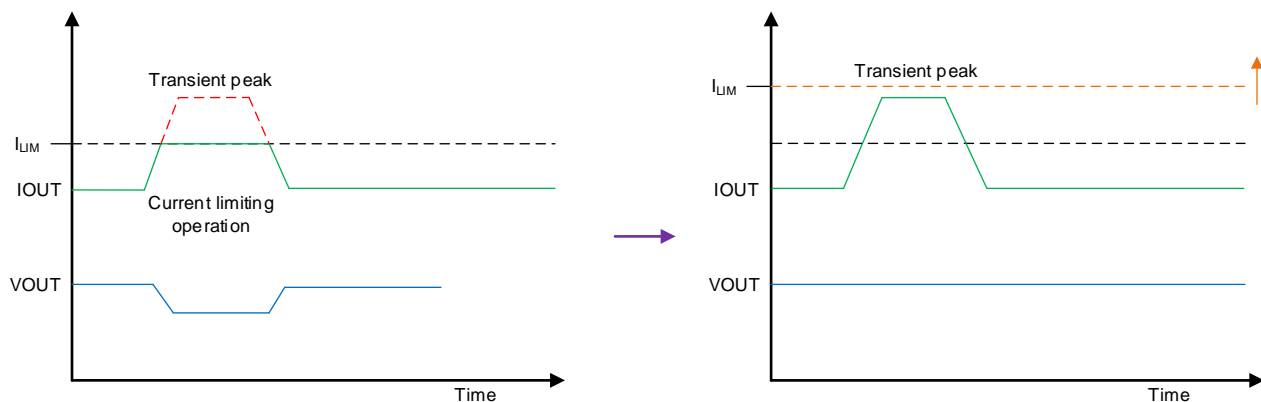

Figure 4. Higher DC Current Limit to Avoid False Trip During Transients
2. Employ a higher DC current limit threshold. The threshold is increased to a level above the highest peak current expected in the system as shown in Figure 4. This ensures that the load transients pass through without triggering the overcurrent response. On the downside, the eFuse now allows higher DC currents to flow in case of actual faults. The power supply size/rating needs to be increased accordingly to handle peak current demand continuously until the current limit takes action. It also leads to higher stress and overheating in the downstream circuits in case of real faults.